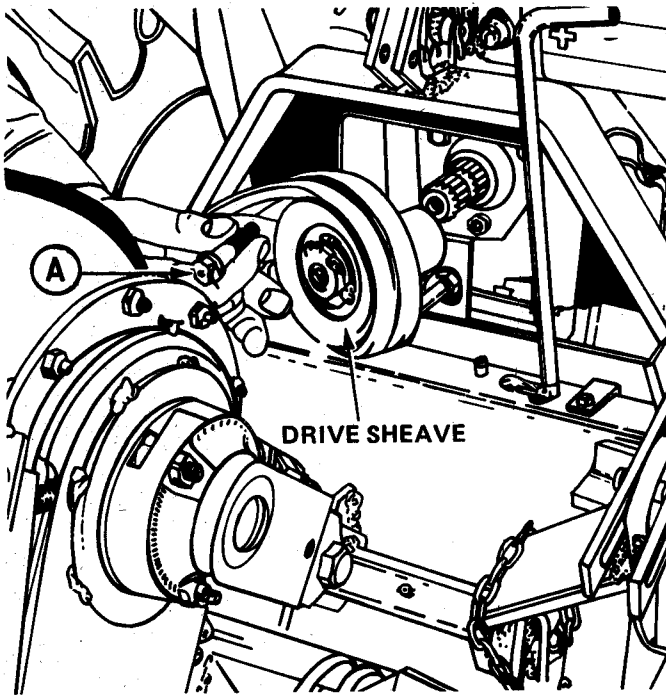

Figure 5
8B. Disengage tiller clutch lever. Install belts and double V belt drive sheave on the tractor PTO stub shaft as shown in Figures 5 and 6. Secure with a 3/8" x 2" cap screw and lockwasher as shown at A, Figure 5.
4. Remove the drive sheave, Figure 5.